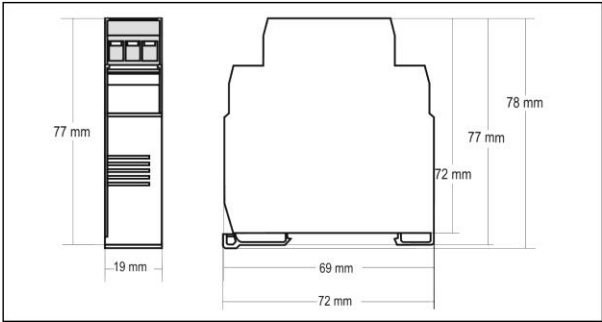

Figure 04 – Transmitter dimensions
The transmitter is intended for DIN rail mounting. Its drawing is presented in **Figure 04**.
- Housing: ABS plastic. Dimensions: Refer to Figure 04.**